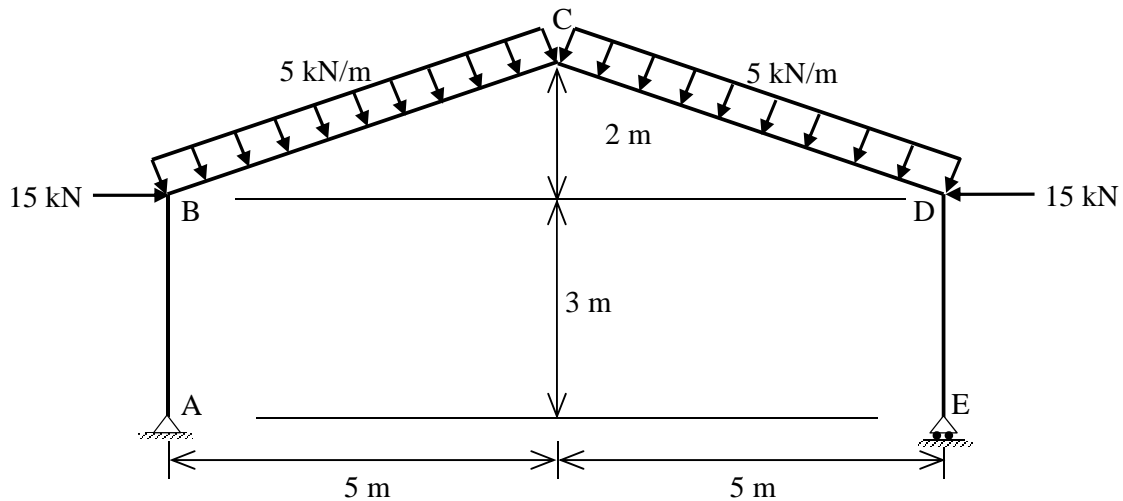

Figure 6(a) / Rajah 6(a)
6. [a] **Figure 6(a)** shows a portal frame that carries uniformly distributed load of 5 kN/m along span BC and CD with pin and roller supports at A and E, respectively. The load is perpendicular to the spans. Two horizontal concentrated loads of 15 kN are acting at joints B and D. Use the virtual work method to determine the vertical deflection at joint C of the frame shown in **Figure 6(a)**. Take $E = 200 \text{ GPa}$ and $I = 600 \times 10^6 \text{ mm}^4$.
- [b] The section of the steel beam for a frame is shown in **Figure 6(b)**. Determine the plastic moment capacity, elastic moment capacity and shape factor of the beam section. The yield stress of steel is 275 N/mm^2 .